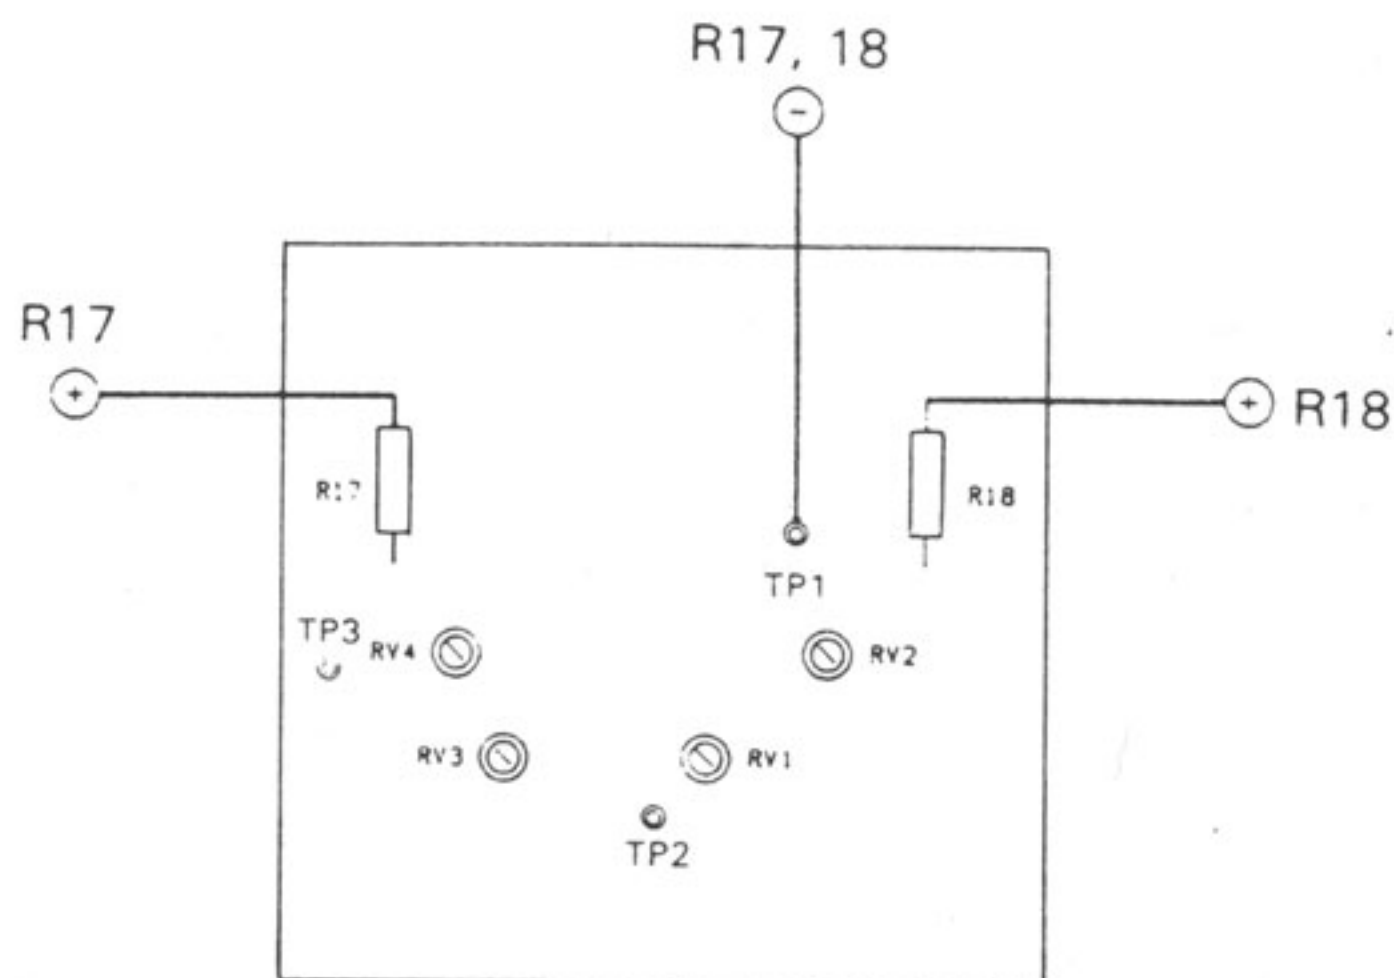

Figure 7-7. RMD Board
- STEP 4.** On the RMD-II board, connect the negative lead of the DVM to TP1 and the positive lead to TP2, as shown in Figure 7-7.
STEP 6. Connect the positive lead of the DVM to TP3 as shown in Figure 7-7, and adjust RV4 until the DVM reads zero volts, +/- 10mV.